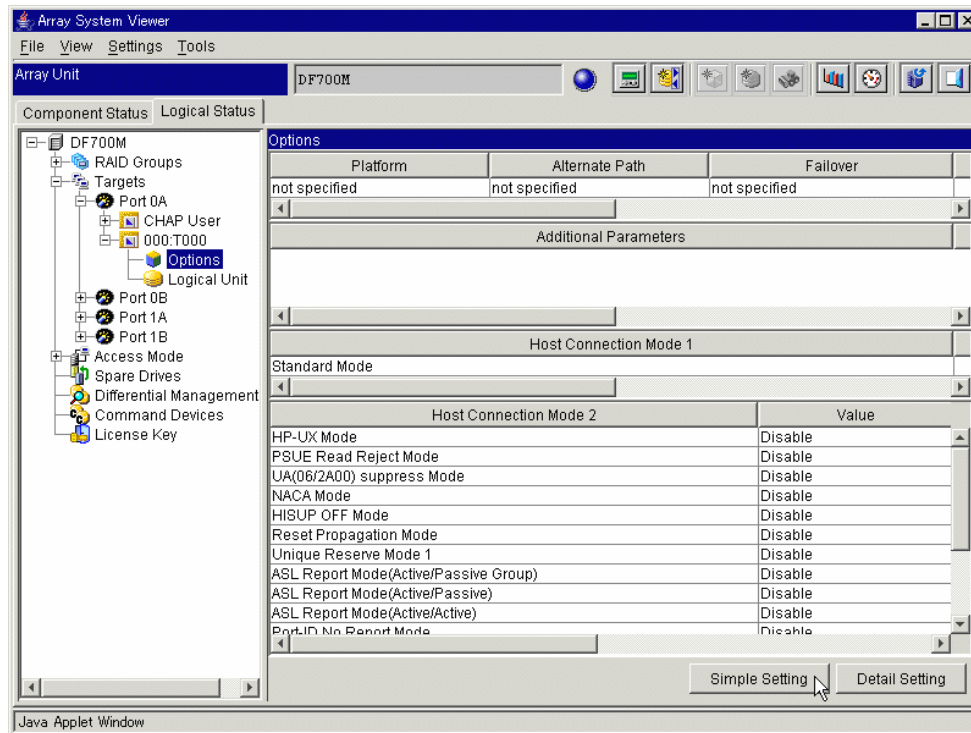

Figure 8.1 Array System Viewer - Simple Settings
1. Click the **Logical Status** tab. See Figure 8.1.